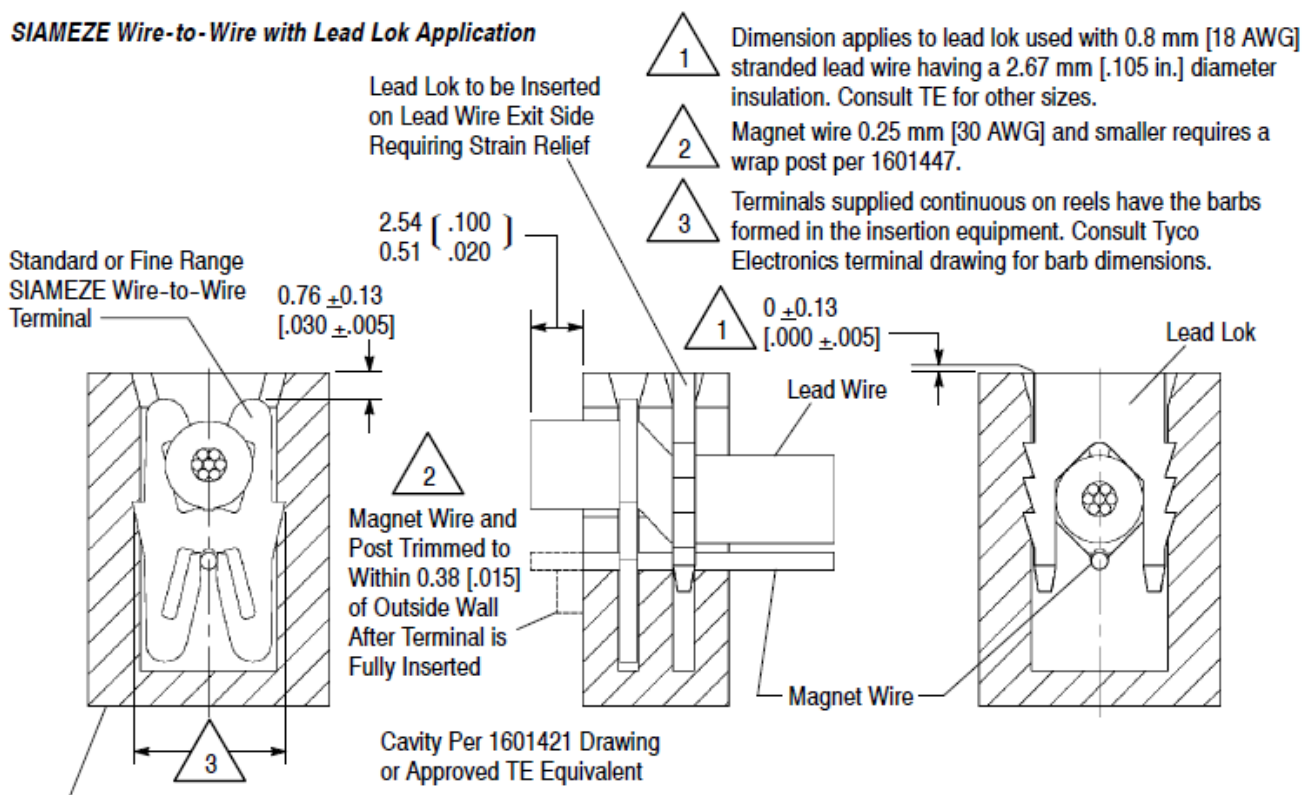
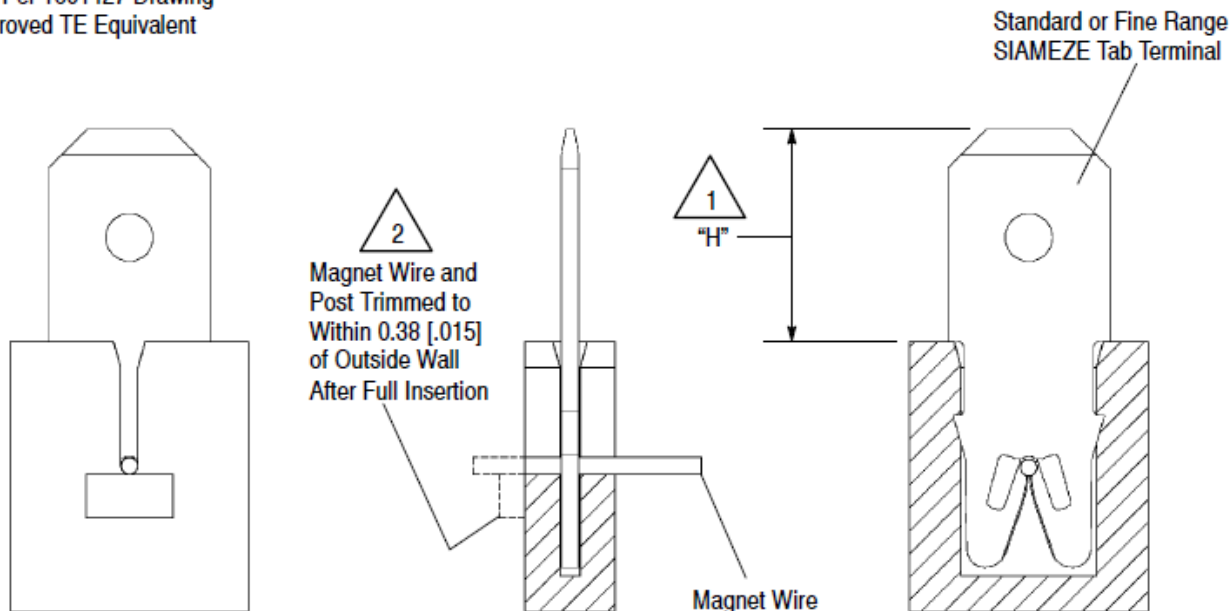

Figure 3
Figure 15
3.7. Terminal Insertion Depth (Figure 3 through Figure 15)